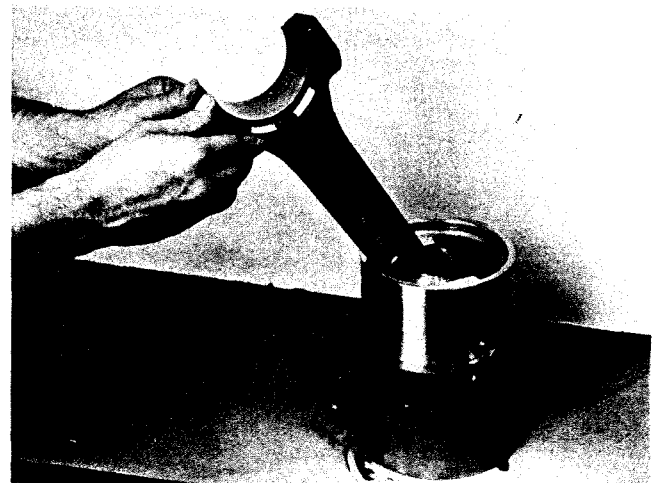

Fig. 14-11, (N114248). Installing connecting rod bearing
7. Coat connecting rod bearing with clean lubricating oil. Locate tang on bearing to groove in connecting rod and snap into place. Fig. 14-11.